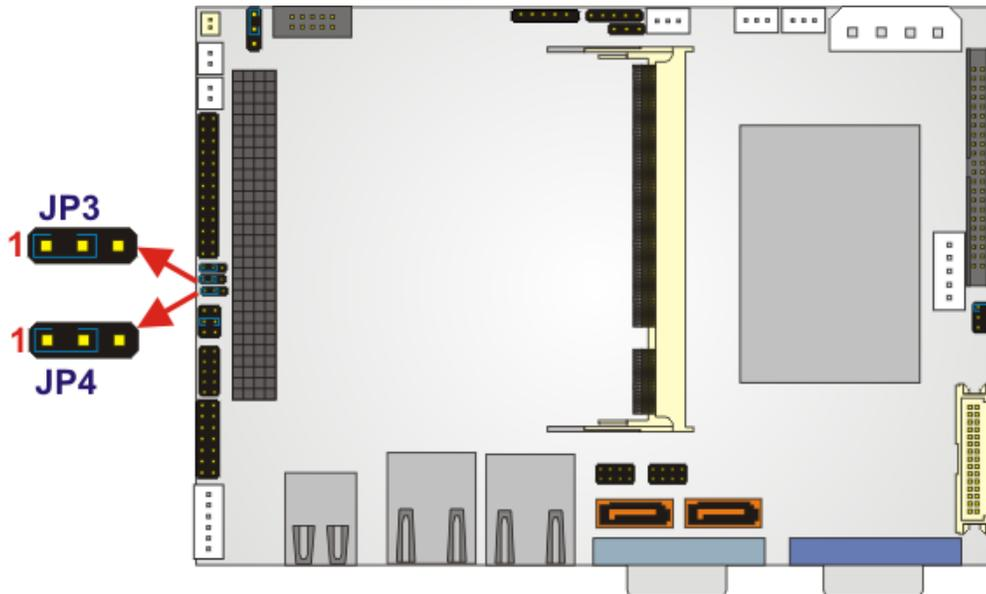

Figure 4-5: COM2 Setup Jumper Pinout Locations
- Jumper Location:** See Figure 4-5
The RS-232/422/485 Setup jumper locations are shown in **Figure 4-5**.